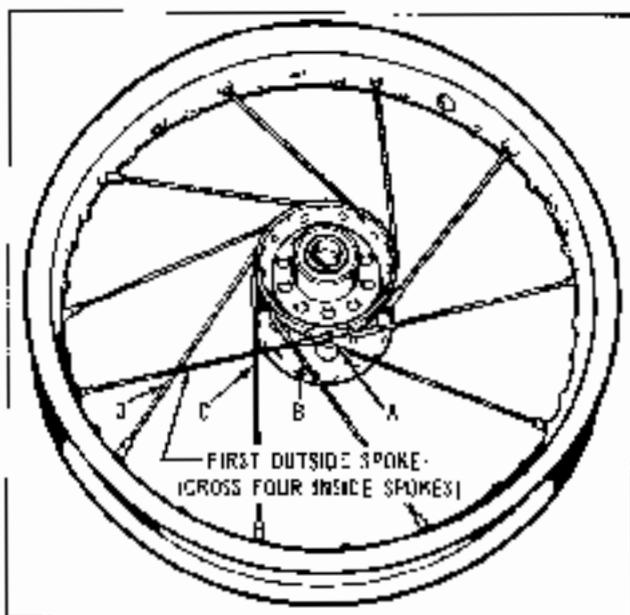

Figure 2-8. Spiking Wheel
DISASSEMBLING INTERCHANGEABLE WHEEL HUB AND BRAKE DRUM (Figure 2-8)
5. Insert spokes in outer ten holes of flange and swing spokes clockwise (see Figure 2-8).